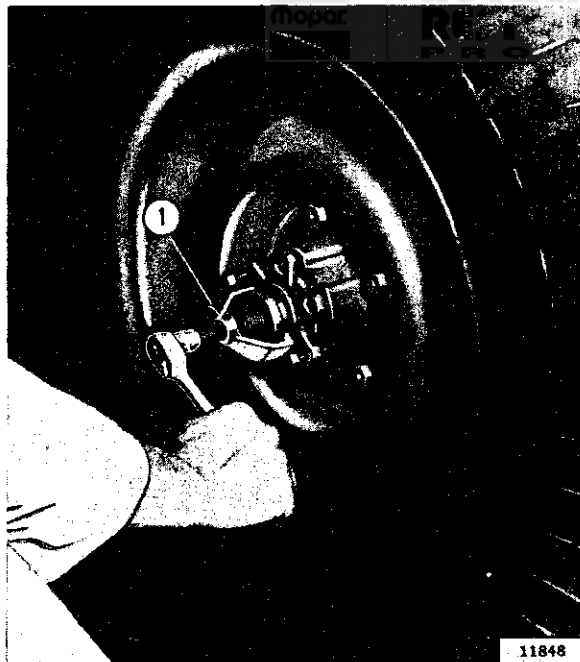

FIG. M-4—AXLE SHAFT DRIVE FLANGE PULLER
- d. Apply the foot brakes and remove the axle shaft flange with puller W-163 as illustrated in Fig. M-4.